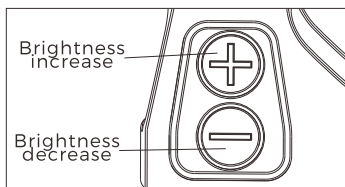

Fig 6
1)Switch on: Press and release either brightness button ("+"or"-") to turn on the sight. See Fig 6.